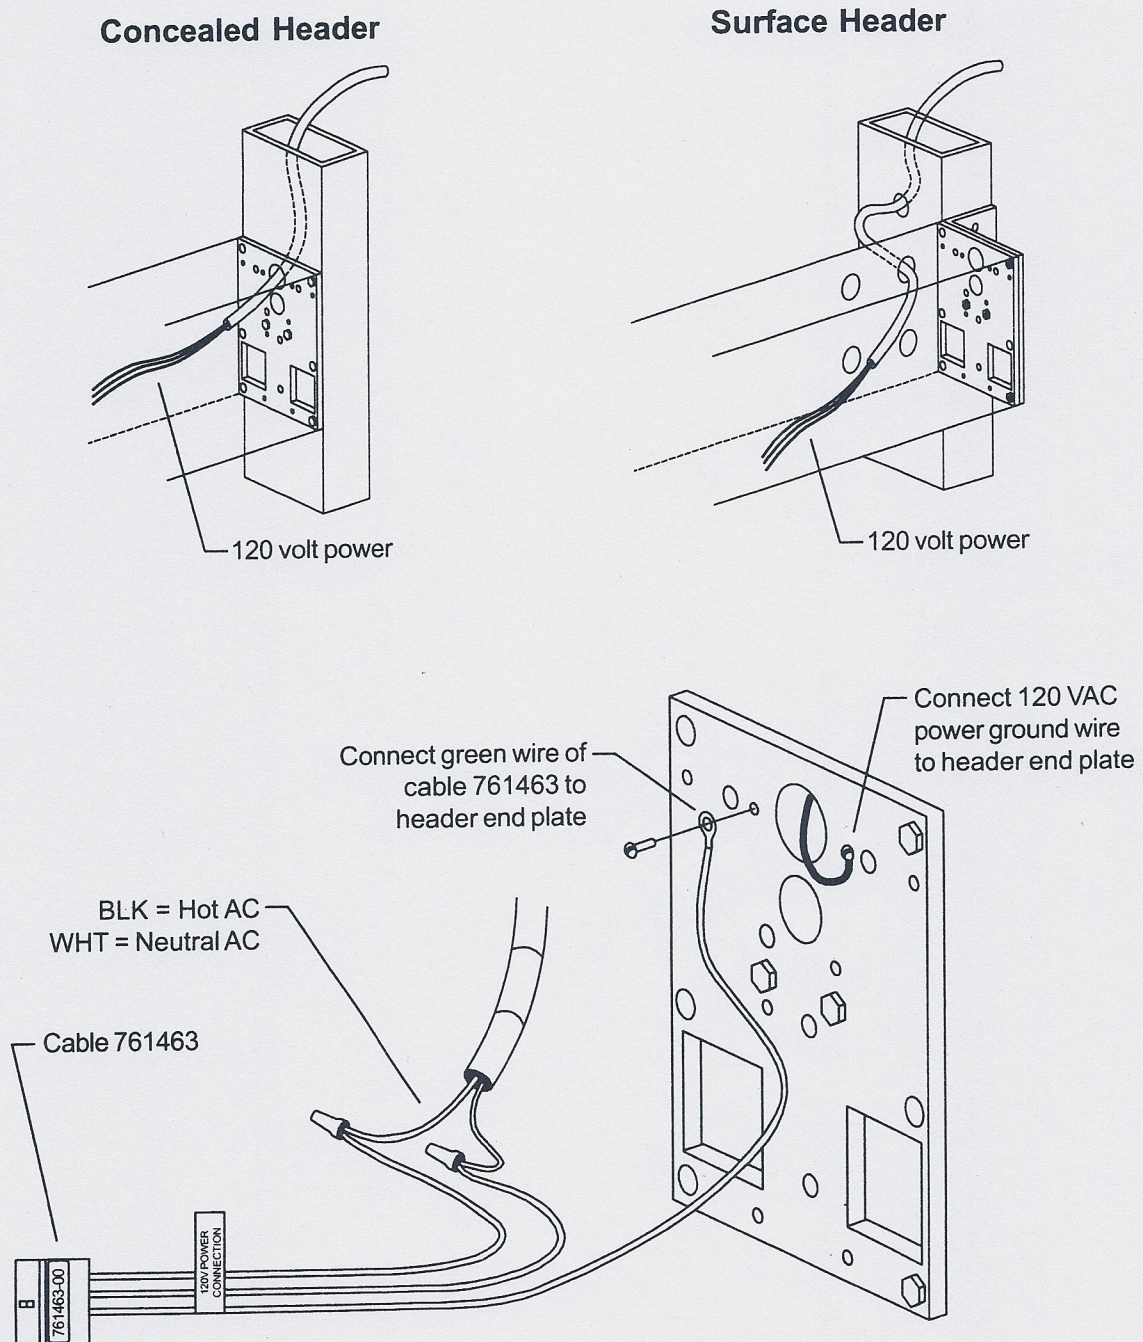

Figure 4-1
- 4.1. Connect the 120 volt power wires to the AC power cable (part number 761463) and header end plate as shown in Figure 4-1.